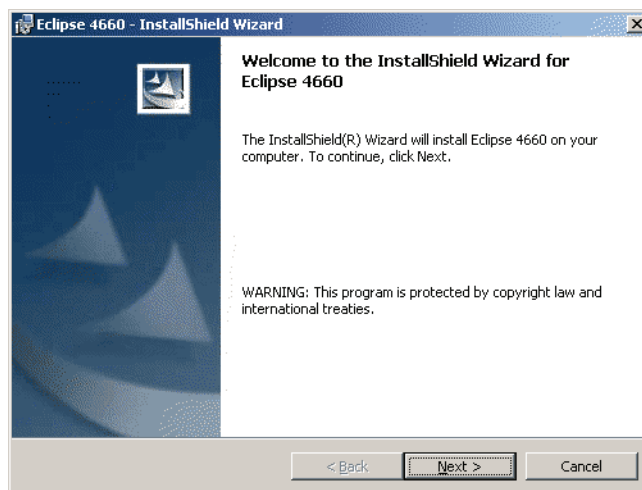

Figure 3.15. Eclipse 4660 InstallShield Wizard screen
4. At the InstallShield welcome screen (Figure 3.15), click **Next** to install the Eclipse software.